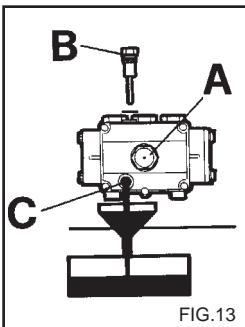

FIG. 13
- 2) Unscrew the cap with the dipstick (fig. 13).